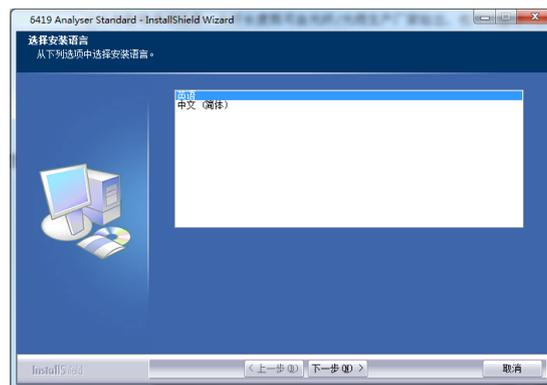

Figure A-1 Select Installation Language dialog box
Step 1 Run setup.exe in the installation package of the standard analysis software. The Select Installation Language dialog box is displayed, as shown in Figure A-1. Select the required language and click Next.